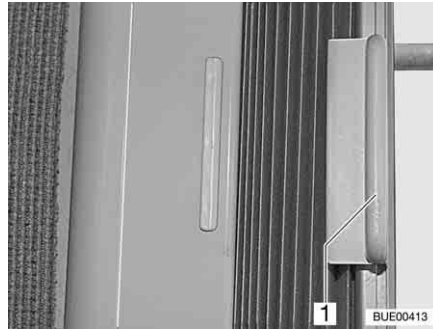

Fig. 27 Roman shade
*Opening and closing:* ■ Grasp the handle (Fig. 27,1) of the Roman shade and slide to the left or the right.